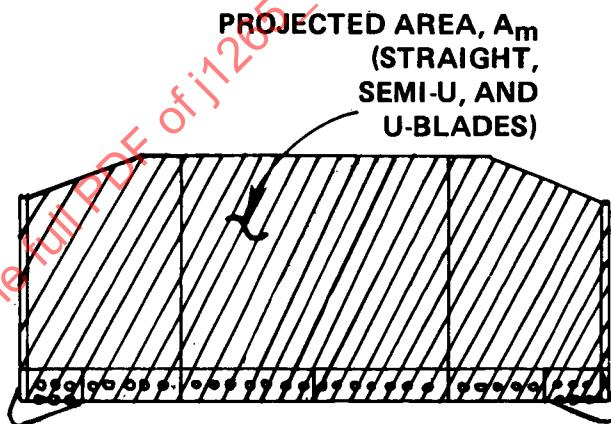

FIG. 2—BLADE PROJECTED AREA
4.1.1 Blade projected area ( $A_m$ , Fig. 2)—Blade area in square meters, exclusive of the end bit extensions, projected on a vertical plane parallel to the width of the blade. The blade is located in the mid-pitch position with the cutting edge at ground line.